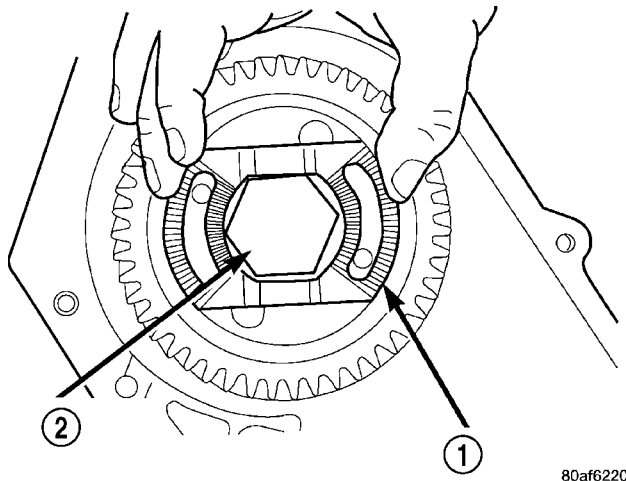

Fig. 106 Install Stirrup
(18) Install output gear stirrup with serrated side out (Fig. 106).